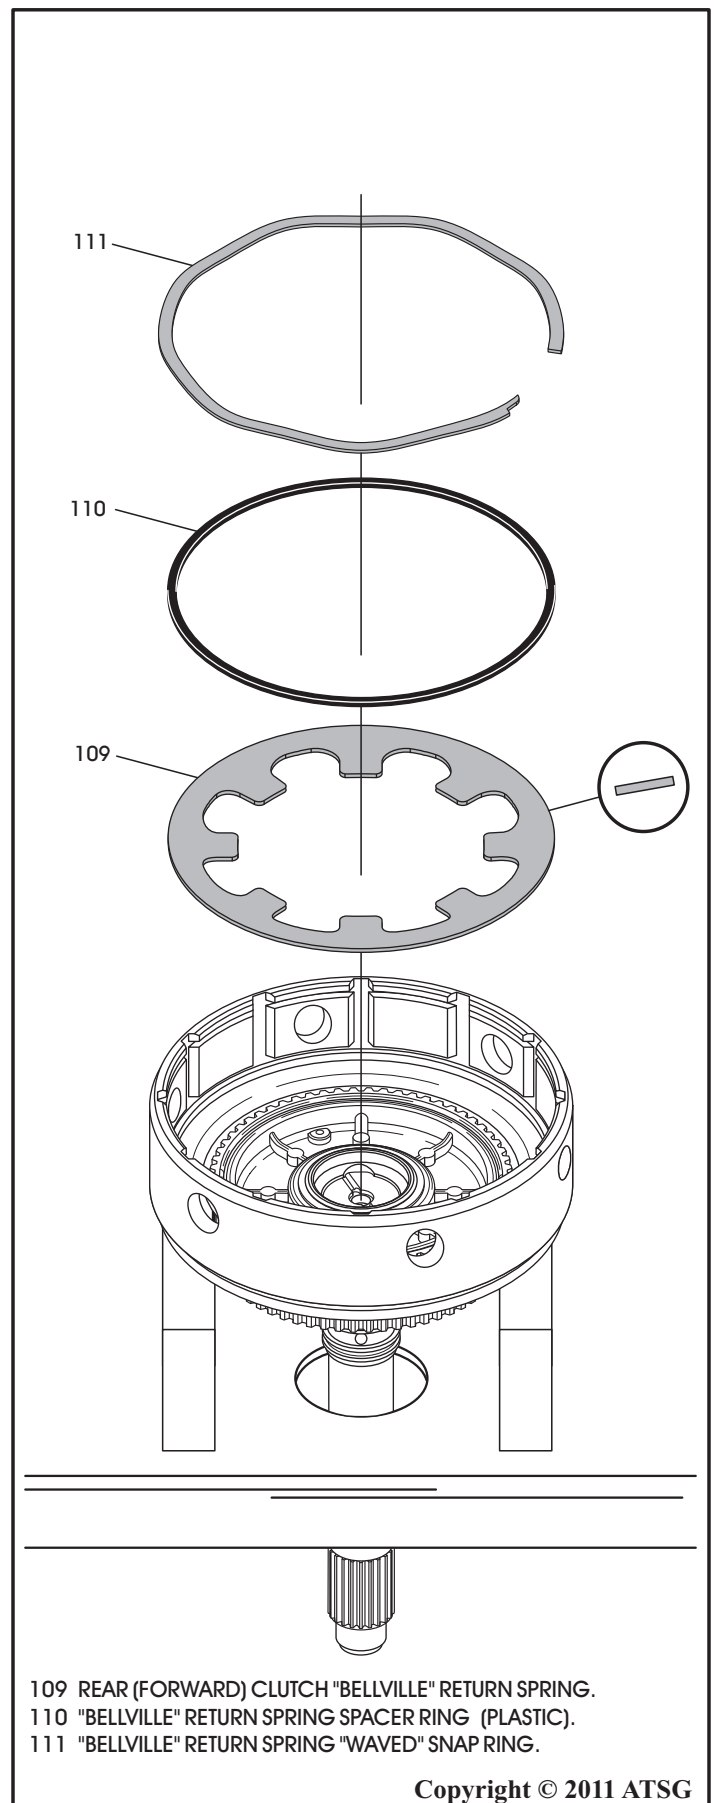

Figure 126
9. Install the "bellville" return spring into retainer, as shown in Figure 126.
10. Install the plastic spacer on top of the "bellville" return spring, as shown in Figure 126.
11. Install the wave snap ring into bottom groove of the retainer, as shown in Figure 126.